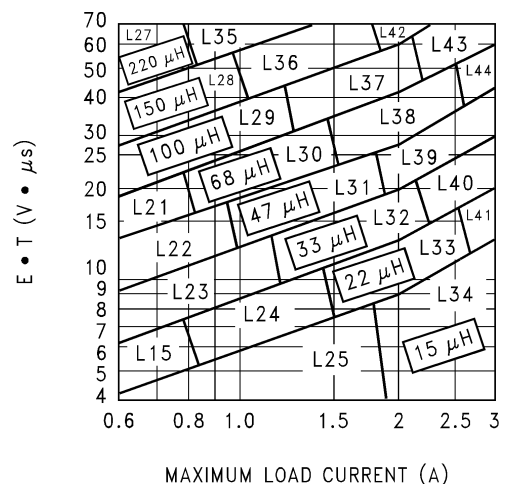

Figure 24. LM2596-ADJ
2. Inductor Selection (L₁) A. Calculate the inductor Volt • microsecond constant E • T (V • μs), from the following formula: $E \cdot T = (V_{IN} - V_{OUT} - V_{SAT}) \cdot \frac{V_{OUT} + V_D}{V_{IN} - V_{SAT} + V_D} \cdot \frac{1000}{150 \text{ kHz}} (V \cdot \mu s)$ where - V_{SAT} = internal switch saturation voltage = 1.16V - V_D = diode forward voltage drop = 0.5V (4) B. Use the E • T value from the previous formula and match it with the E • T number on the vertical axis of the Inductor Value Selection Guide shown in Figure 24. C. on the horizontal axis, select the maximum load current. D. Identify the inductance region intersected by the E • T value and the Maximum Load Current value. Each region is identified by an inductance value and an inductor code (LXX). E. Select an appropriate inductor from the four manufacturer's part numbers listed in Table 3.	2. Inductor Selection (L₁) A. Calculate the inductor Volt • microsecond constant (E • T), $E \cdot T = (28 - 20 - 1.16) \cdot \frac{20 + 0.5}{28 - 1.16 + 0.5} \cdot \frac{1000}{150} (V \cdot \mu s)$ $E \cdot T = (6.84) \cdot \frac{20.5}{27.34} \cdot 6.67 (V \cdot \mu s) = 34.2 (V \cdot \mu s)$ (5) B. E • T = 34.2 (V • μs) C. I_{LOAD(max)} = 3A D. From the inductor value selection guide shown in Figure 24, the inductance region intersected by the 34 (V • μs) horizontal line and the 3A vertical line is 47 μH, and the inductor code is L39. E. From the table in Table 3, locate line L39, and select an inductor part number from the list of manufacturers part numbers.